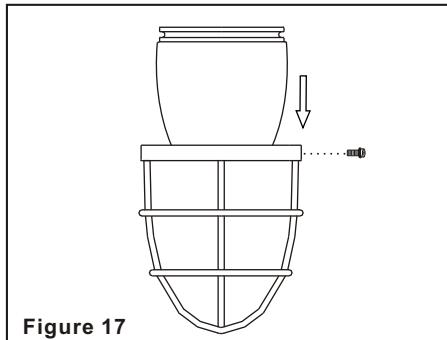

Figure 17
**Step 4.** (Fig. 17) Place the glass shade into the glass frame and secure with four nuts.